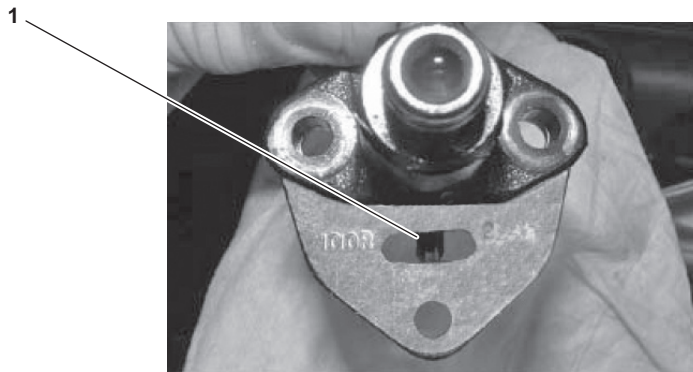

Figure 6-44. Aligning Fuel Shutoff Valve with Center Mark
- (3) While looking through the cover plate opening, activate the Engine Speed Lever to ensure that the fuel shutoff valve is positioned correctly between the guides. Using the Engine Speed Lever, position the fuel shutoff valve so that it is aligned with the center mark (figure 6-44, item 1).